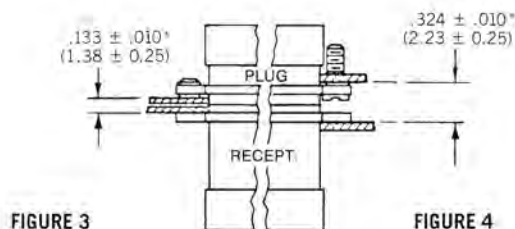

FIGURE 4
4. With both connectors front mounted (plug assembly has float mounting screw), use #4-40 binder or pan head screws for receptacle assembly (Fig. 4).